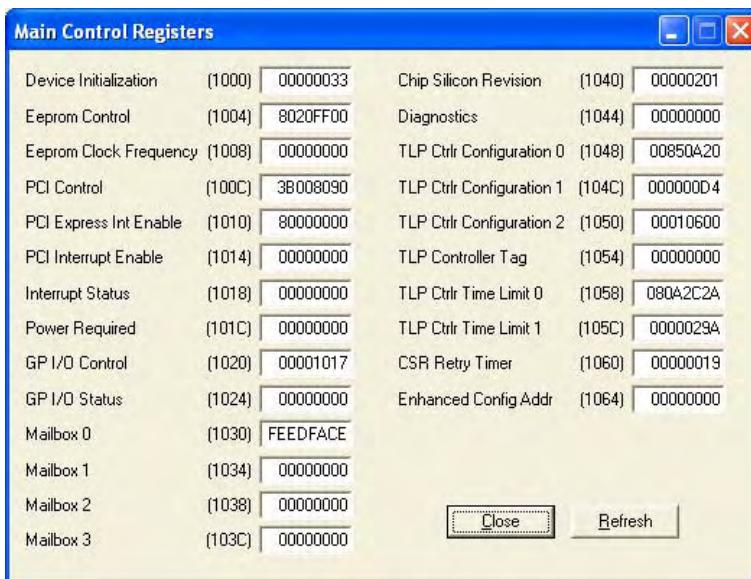

Figure 2. PEX 8311 Main Control Registers Dialog Box
- c. Click the  button on the **PLXMon** program window, to open the **Main Control Registers** dialog box (Figure 2). The values shown are in hex.